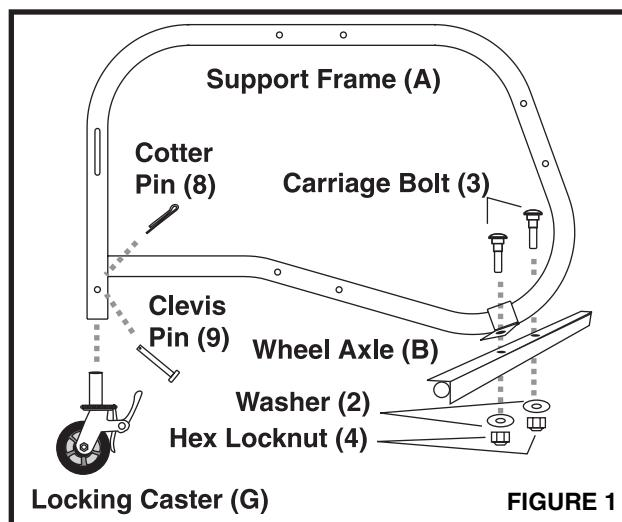

FIGURE 1
1 Insert Swivel Locking Caster (G) into Support Frame (A). Secure using 3/8 x 2" Clevis Pin (9) and 1" Cotter Pin (8) as shown in Figure 1.
2 Attach Wheel Axle (B) to Support Frame (A) using the 3/8 x 16 x 1" Carriage Bolt (3), 3/8 x 1" Flat Washer (2), and 3/8 x 16 Nylon-Insert Locknut Hex (4) as shown in Figure 1.